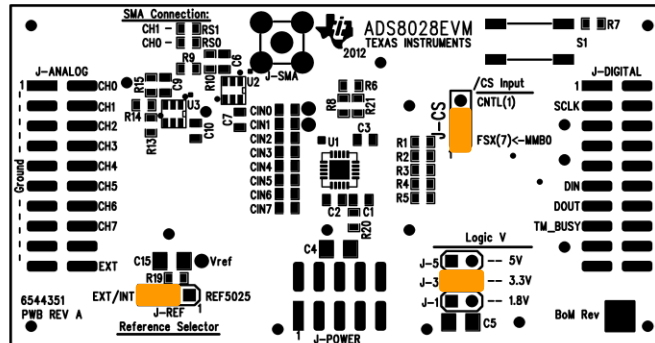

Figure 2. Jumper Locations and Default Settings
Figure 2 shows the location of jumpers on the EVM and their respective factory default settings.
1. Verify the ADS8028EVM jumper settings from the factory as shown in Figure 2 and also listed in Table 3.